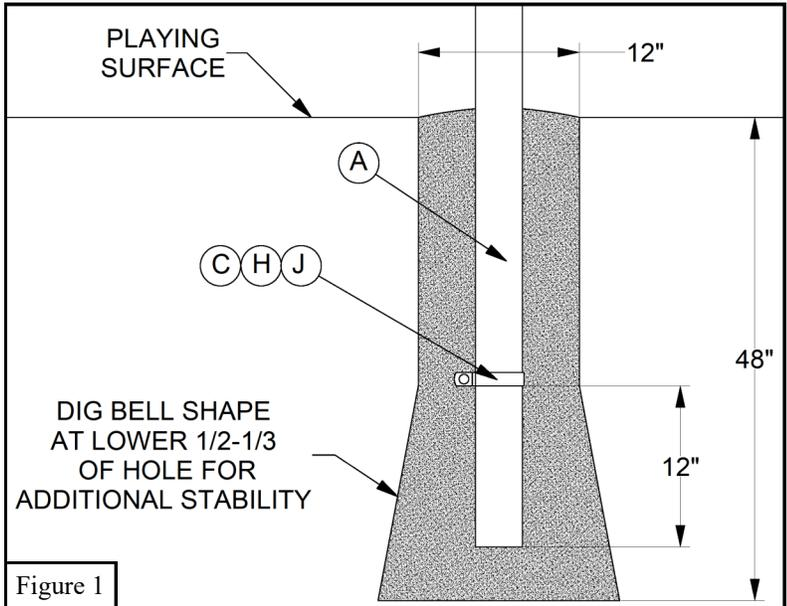

Figure 1
2. Select the location for the concrete base footing. Note that the face of the *Backboard* (Q) will be approximately 48" from the center of the footing for a BA777 Pole and 60" for a BA777XL Pole. Dig a 12" diameter hole that is 48" deep. Remove additional soil from the bottom 1/3-1/2 of the hole in a bell shape to add pole stability. In areas where the normal frost line is below 48" it is advisable to dig to the normal frost line. See Figure 1.
3. Make sure that you have a level and a broomstick or similar pole to vibrate air pockets out of concrete. A 12" diameter by 36" deep hole with a bell bottom will require approximately 4 cubic ft. or 3000 PSI *Quick Dry Concrete* (T). You will need to adjust the amount depending on the size of hole you prepared. Having too much is better than having too little.
- Attach one *Band Clamp* (C) with  $5/16'' \times 2''$  *Carriage Bolt* (H), and  $5/16''$  *Flange Nut* (I) approximately 12'' from the bottom end of pole and insert pole into concrete while vibrating concrete to allow it to surround the pole completely. The horizontal extension section of the pole should be parallel to the playing surface, perpendicular to the intended court end line and the lower surface of the horizontal portion of the tube should be  $9' 6 \frac{1}{2}''$  above the playing surface. You will need to brace the pole to maintain this dimension to insure the rim height will be at official 10'. See Figure 1 & 2